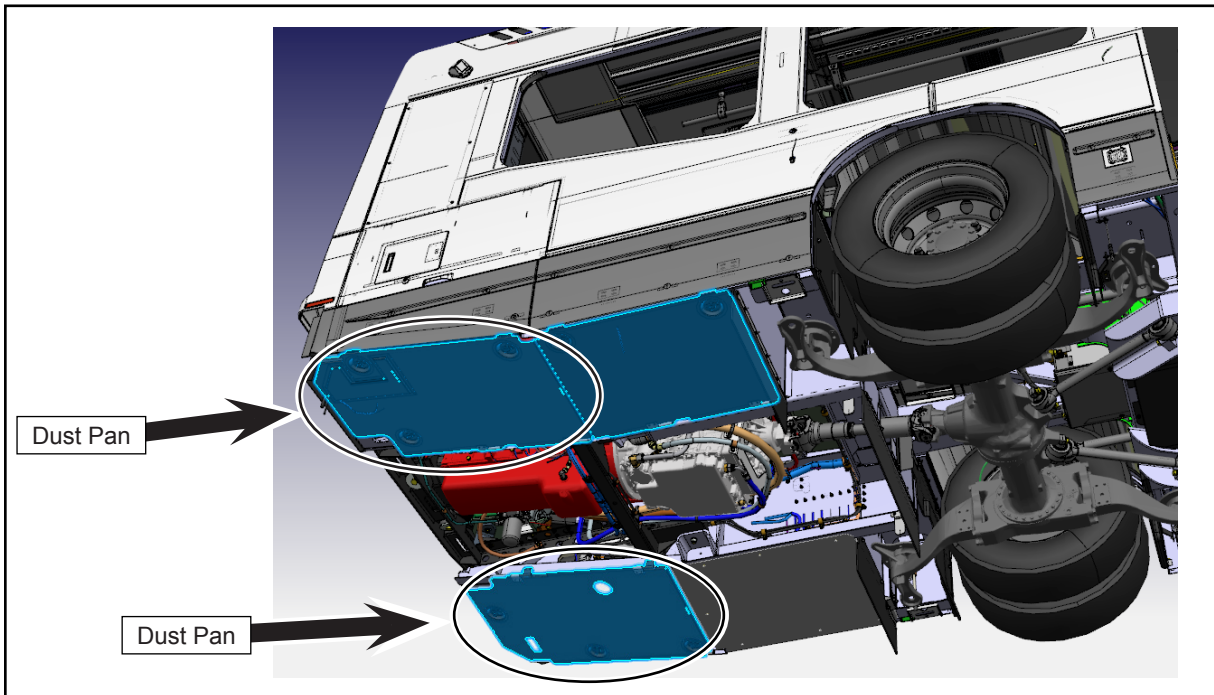

Figure 25 - Remove the Two Dust Pans
- 1.85. Remove the two dust pans (see Figure 25).